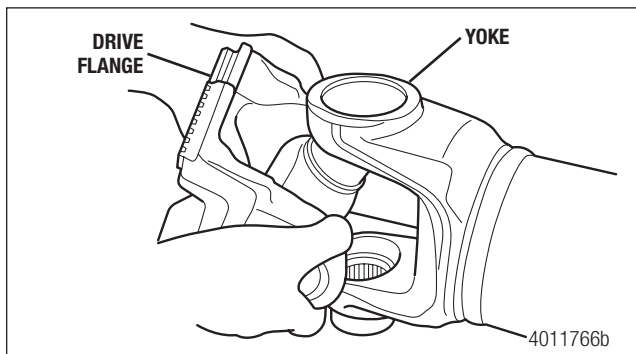

Figure 5.94
3. Install the flange assembly into the universal joint. Install the side without the cup first in the top then seat the rest down into the bottom. Figure 5.94.